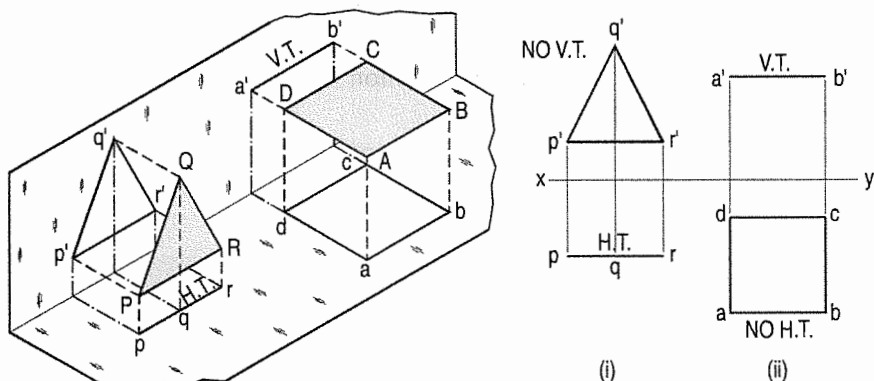

FIG. 12-2
- (a) Plane, perpendicular to the H.P. and parallel to the V.P. [fig. 12-2(i)].
- (b) Plane, perpendicular to the V.P. and parallel to the H.P. [fig. 12-2(ii)].